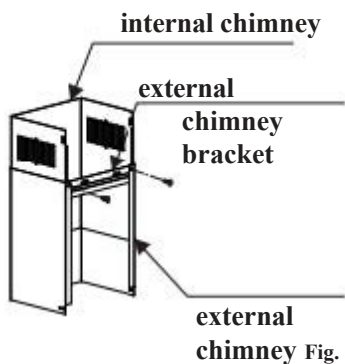
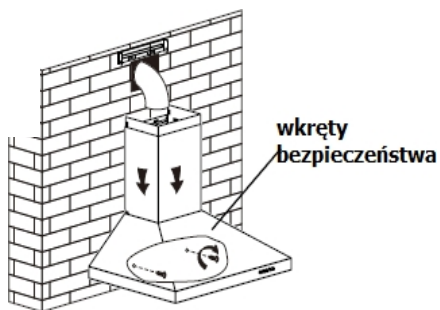

Fig. 5
Fig. 6
5. Attach the external chimney bracket to the external chimney using 2 ST4 * 8 mm screws and ensure that the height of the internal chimney can be freely adjusted, see figure 5. Then use 2 ST4 * 8 mm screws to attach the external chimney to the body of the cooker hood and use 2 ST4 * 40 mm screws to attach the external chimney bracket to the wall. Route the expansion pipe outside, see figure 6.